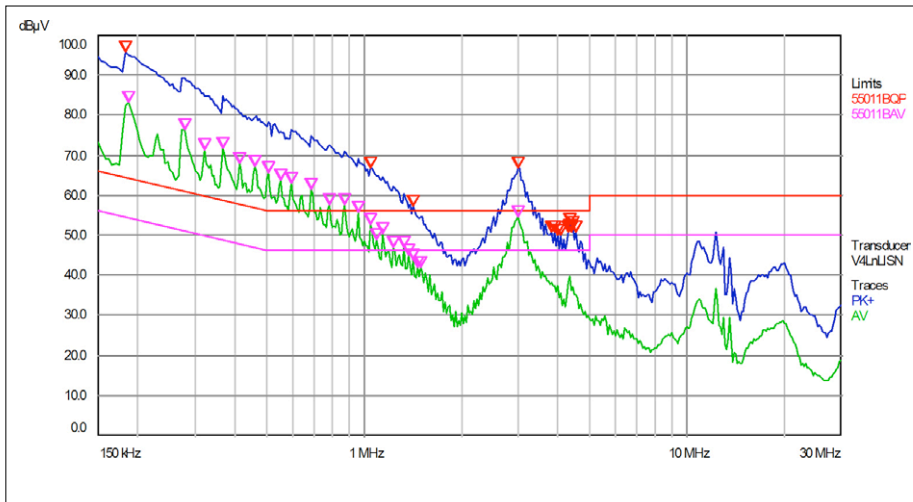

Figure 3: Measurement without filter components, conducted across the frequency range 150 kHz - 30 MHz.
- The limit values are clearly exceeded, see **Figure 3**.